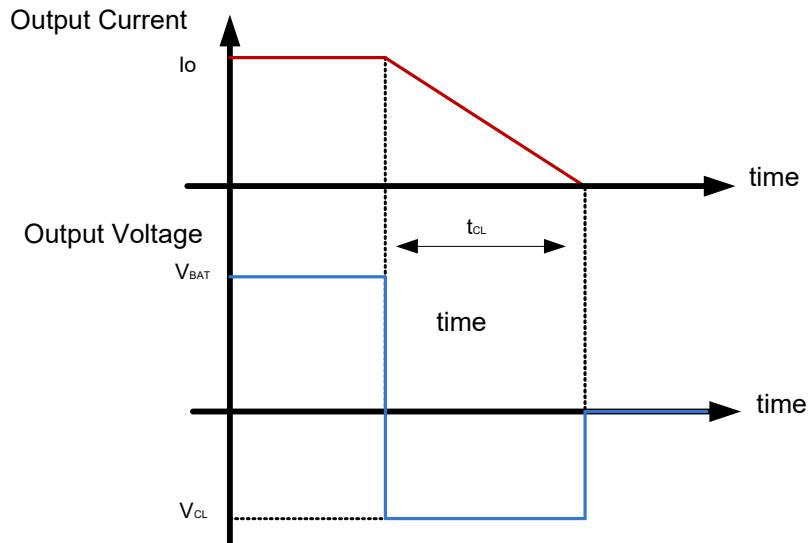

Figure 20. Simplified negative output clamp waveform
In case of an inductive load (L), the energy is dissipated after the turn-off inside the N-channel MOSFET. When $t_{CL} (= Io \times L / V_{CL}) > 1.0$ ms, the turn-off waveform can be simplified with a rectangle, as shown in Figure 20.